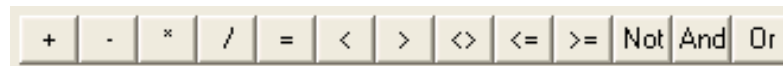

Figure 27 - Operators Buttons
13. The **Operators** buttons (Figure 27) allow you to enter an operation descriptor based on the selected button.